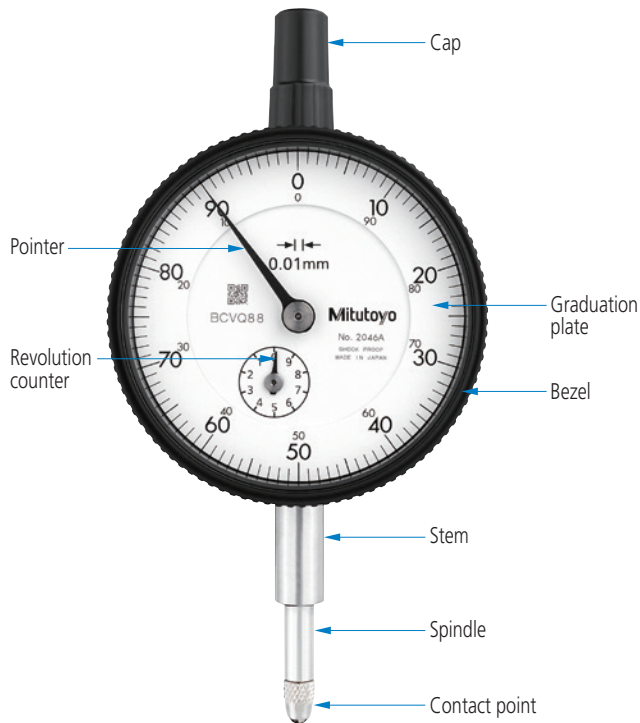

Fig. 6
4. The letter "E" appearing temporarily at the end of the display while the spindle is moving is normal. However, if it is displayed continuously when the spindle is at rest then repair is necessary. (Fig. 6)